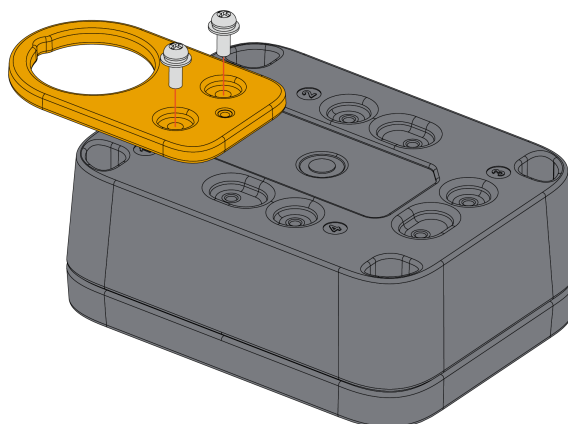

Figure 38: Fixing the hook loop mount on the enclosure
2. Fix the hook loop mount marked with the letter **J** on the WisBlock Unify Enclosure using two (2) pieces of M3*8 mm Head screw with washer. Place it on fixed position number **1 or 3** of the enclosure as shown in **Figure 38**.